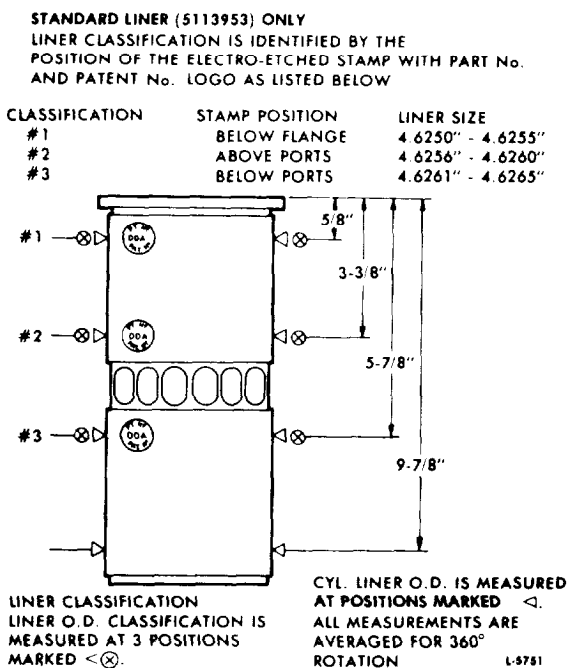

Figure 11B-135. Cylinder Liner Classification
2. Place a standard size cylinder liner insert (0.1795"-0.1800" thick) in the block counterbore (see Figure 11B-136 on page 11B-89).